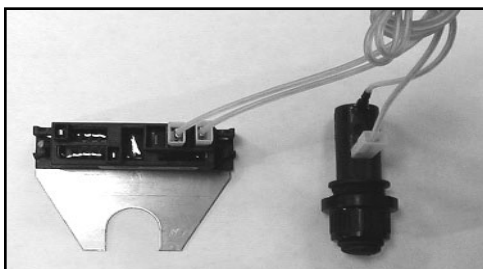

Fig. 4
4. Re-insert the battery, positive side first, and spring assembly and attach the ignitor cap. (See Fig. 4)